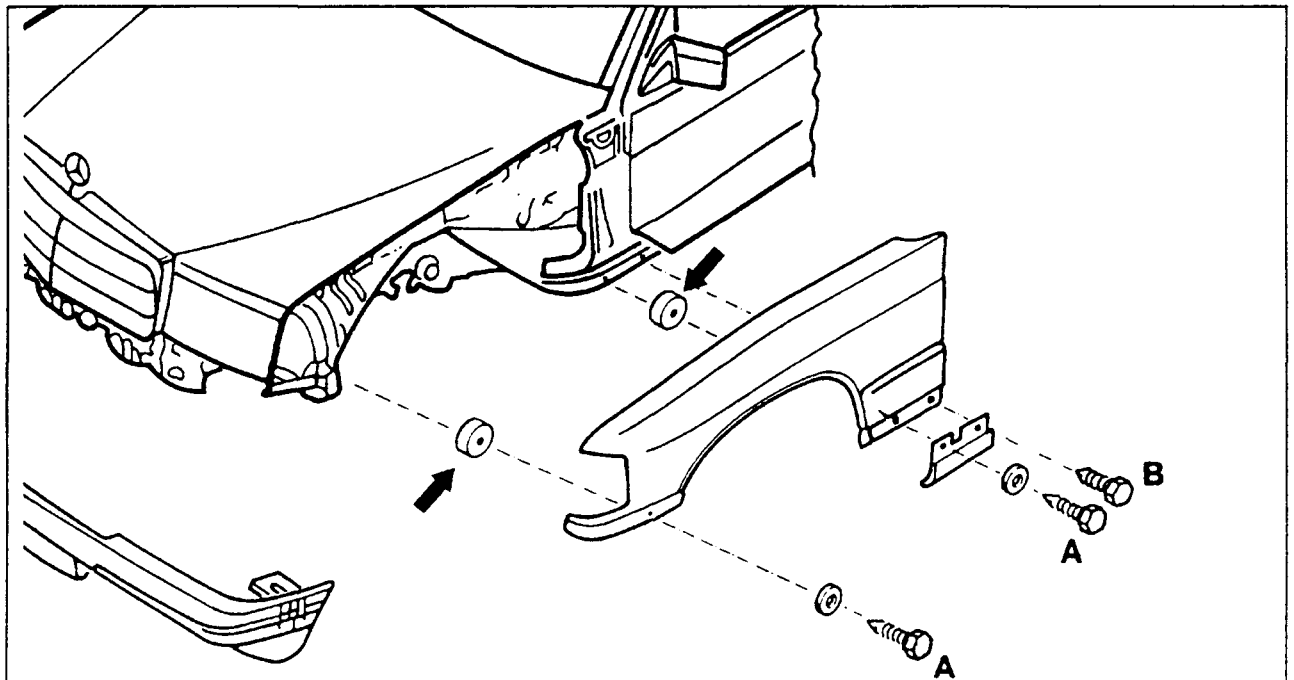

Figure 23
4. Press sides of bumper downward and unscrew bolts (A and B, Figure 23). Position spacers (arrows) between fender and body as shown. Ensure that the holes align for easier installation.